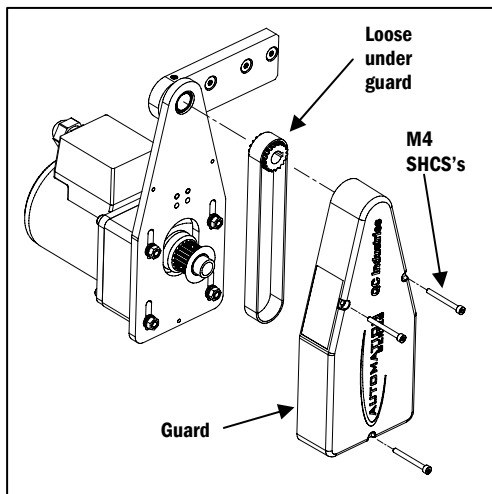

Figure 3
a. Remove the Guard in the Drive package by removing the three M4 Socket Head Cap Screws using an Allen Wrench (**Figure 3**). The top Sprocket and Belt are loose under the Guard.